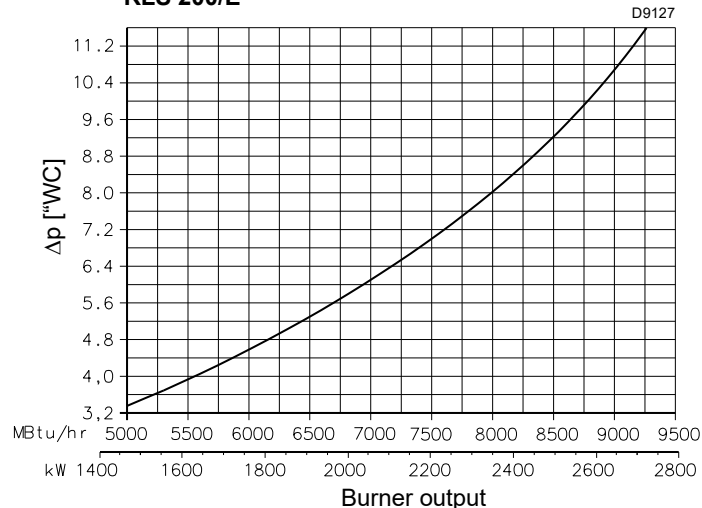

Fig. 31
- Find the nearest pressure value to your result in Fig. 31.